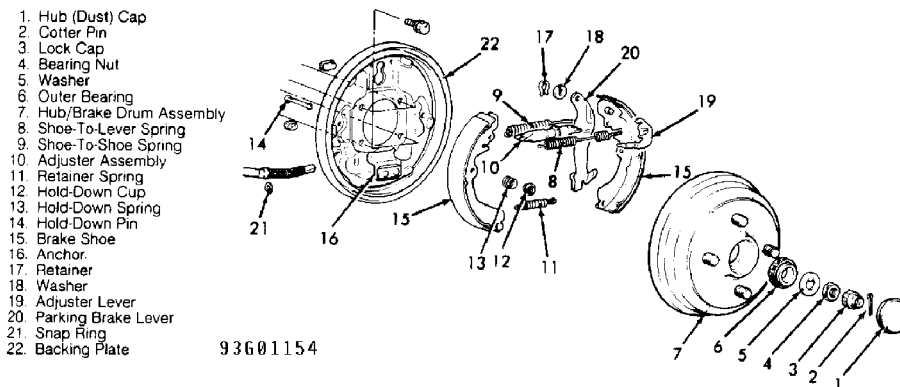

Fig. 12: Exploded View Of Rear Brake Assembly (Galant)
1) Raise and support vehicle. Remove rear hub (dust) cap, cotter pin, lock cap and wheel bearing nut. See Fig. 12. Remove washer and outer wheel bearing. Remove hub/brake drum assembly. Remove shoe
Raise vehicle, and remove wheel(s). Remove hub (dust) cap, cotter pin, lock cap and bearing nut. See Fig. 12. Remove washer and outer wheel bearing. Remove hub/drum assembly. Pry off inner seal, and remove inner bearing.